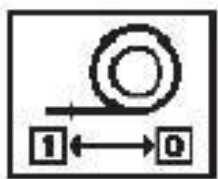

Figure 9
Before starting pulling the black rope, check that it is properly wound between the small pulleys (figure 12). This winding is correct when the handle (pos. 6) returns in the starting position OFF (figure 9), after we stop pulling the rope (pos. 5, figure 12).